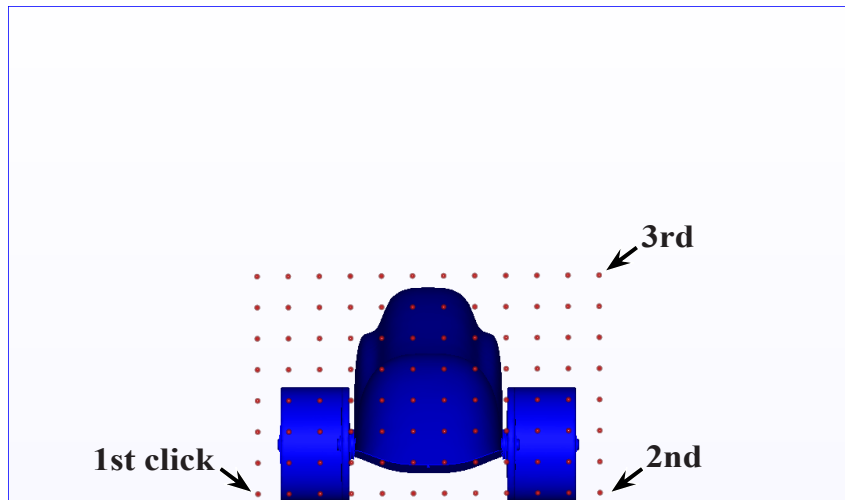

Fig. 54
Step 8. Click left of the wheel at ground level to start the pattern. Click to right of other wheel and click up above the top of car body, **Fig. 54**.